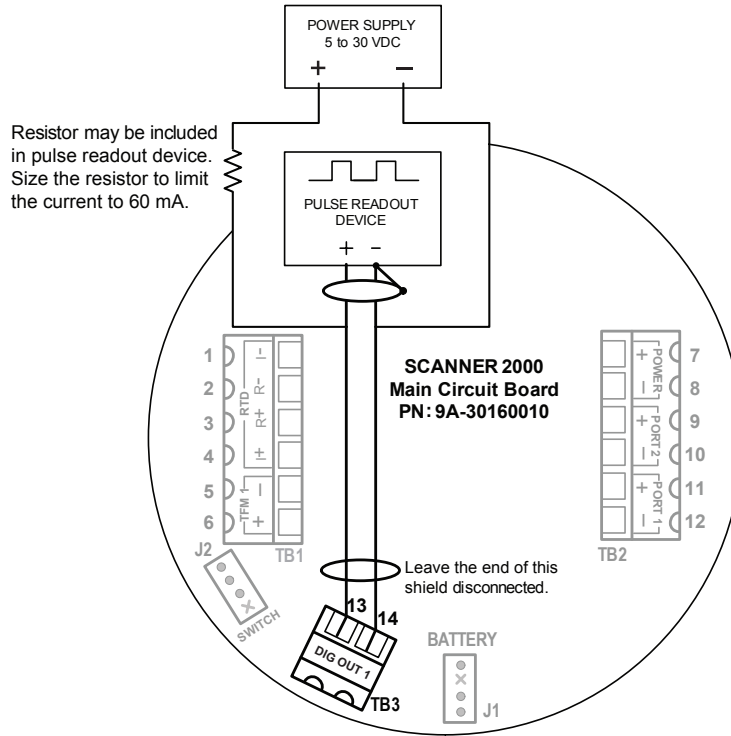
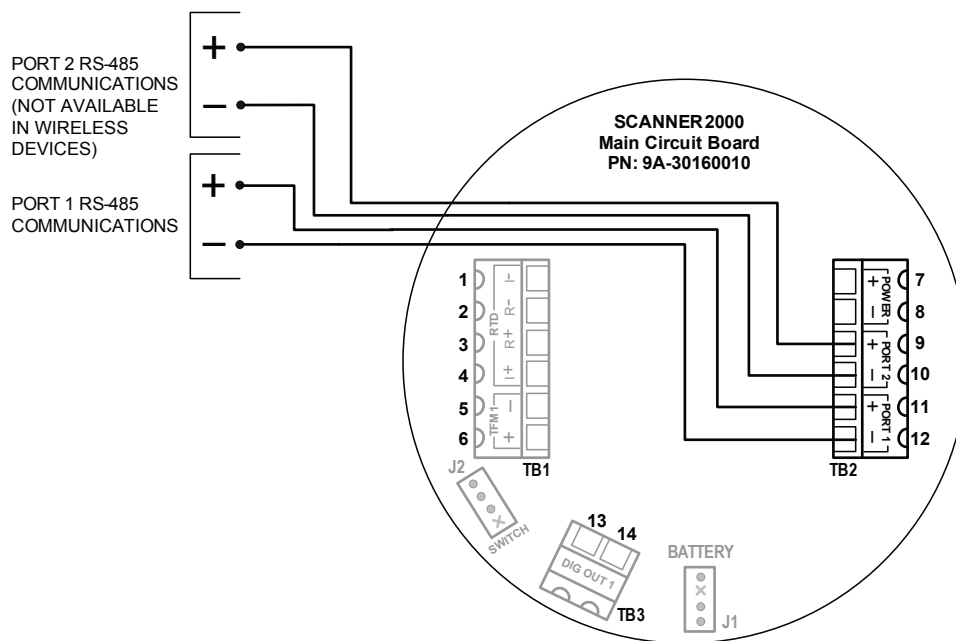
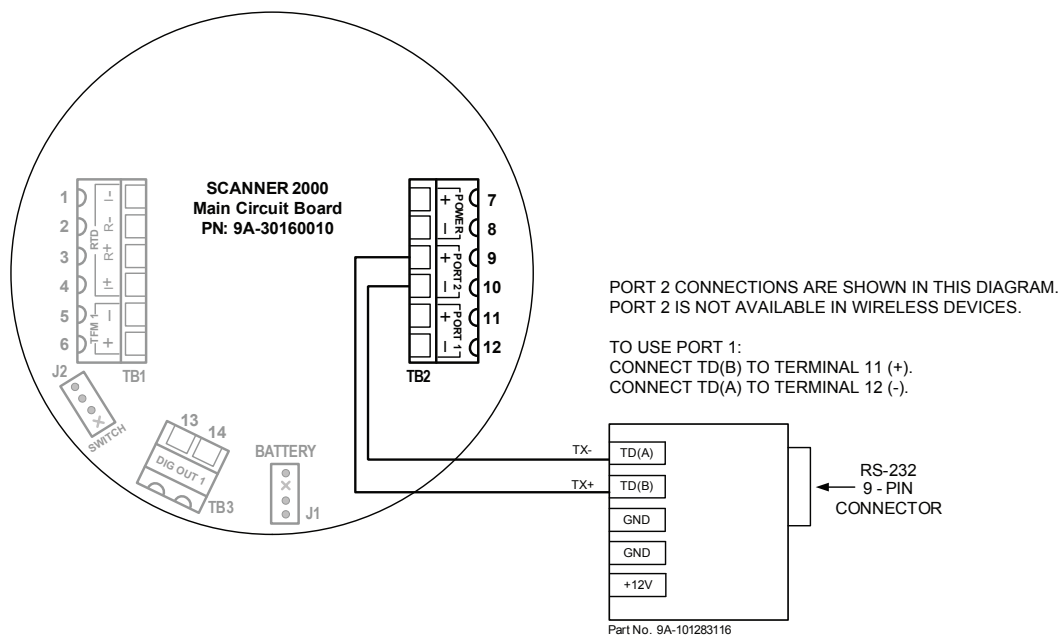

Figure 3.8—Pulse output wiring
Figure 3.9—RS-485 output (permanent connection)
Figure 3.10—RS-485 output (connection to laptop with 9-pin converter)
- e. Connect wiring for output signals, if appropriate. See Figure 3.8, page 58, Figure 3.9, page 59, and Figure 3.10, page 59, for wiring diagrams.
The standard Scanner 2100 supports a solid-state digital output that is configurable as either a pulse output or an alarm output. As a pulse output, the pulse width duration and pulse representation are both configurable. Because the circuit is isolated, it can be used in conjunction with any other feature on the Scanner 2100. A two-conductor cable from the Scanner 2100 to the remote location is required. The maximum rating of the digital output circuit is 60 mA at 30 VDC. Maximum frequency is 50 Hz. Wire as shown in Figure 3.8.
The RS-485 output is required for communication with the interface software. The wiring diagram in Figure 3.9, page 59 supports a permanent connection.
The RS-485 output is required for communication with the interface software. The wiring diagram in Figure 3.10 supports a temporary laptop connections using an RS-232 to RS-485 converter.
An RS-232 to RS-485 converter or NuFlo USB adapter is required for connecting the EFM to a laptop or PC. The converters available from Cameron require no handshaking or external power to operate. See Section 6—Spare Parts, page 79 for ordering information; see Figure 3.9 and Figure 3.10, page 59 for wiring instructions.